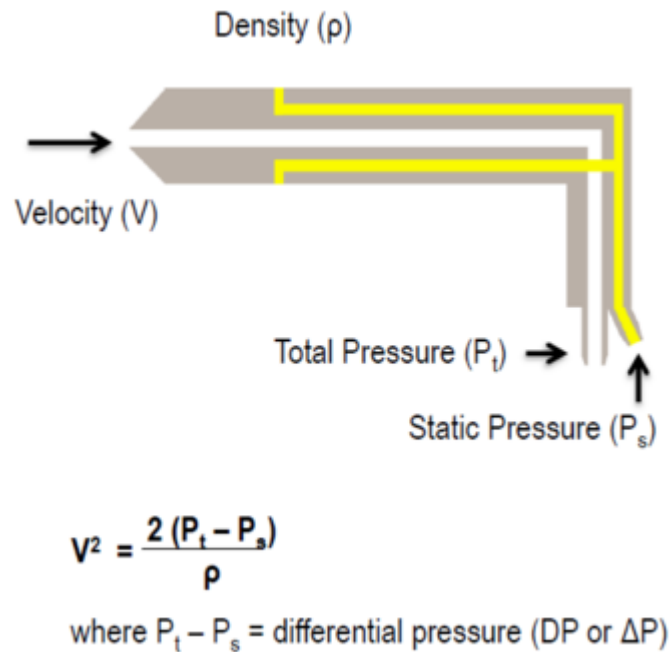

Figure 3: How a pitot tube works
As already known from Pitot tube applications, a differential pressure sensor like the **SDP3x** can be used to measure wind speed. Compared to other measurement principles like membranes this has the advantage that the sensitivity is higher at lower speed and thus is very accurate at small wind speeds. The measurement principle is quite simple, see figure 3 for details. In a tube with two openings, one opening faces towards the wind and sees the total pressure, the other opening sees the static pressure of the ambient (yellow marking in the picture). If the wind now blows into the front opening, a differential pressure (DP) is generated proportional to the velocity ( $P_t - P_s$ ). This has to be scaled by the density of air  $\rho$ . This leads to the final formula  $v^2 = 2 \cdot (P_t - P_s) / \rho$ . The relation of differential pressure versus velocity is shown in figure 5. A single pitot tube measures only the wind speed from one direction. To get an angle of attack, it is necessary to combine two sensors or more to an array.